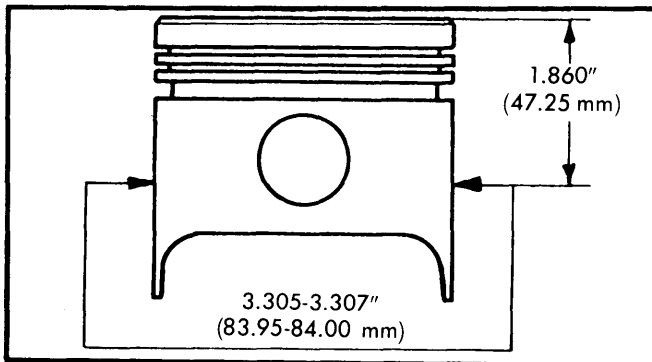

Fig. 6 Measure Piston Diameter at Points Shown
1) Visually inspect pistons for signs of seizure or scoring. Remove rings and set aside in proper location for later installation (if not to be replaced). Measure outside diameter of pistons at a point 1.86\" (47.25 mm) below piston crown and at right angles with piston pin bore. See Fig. 6.